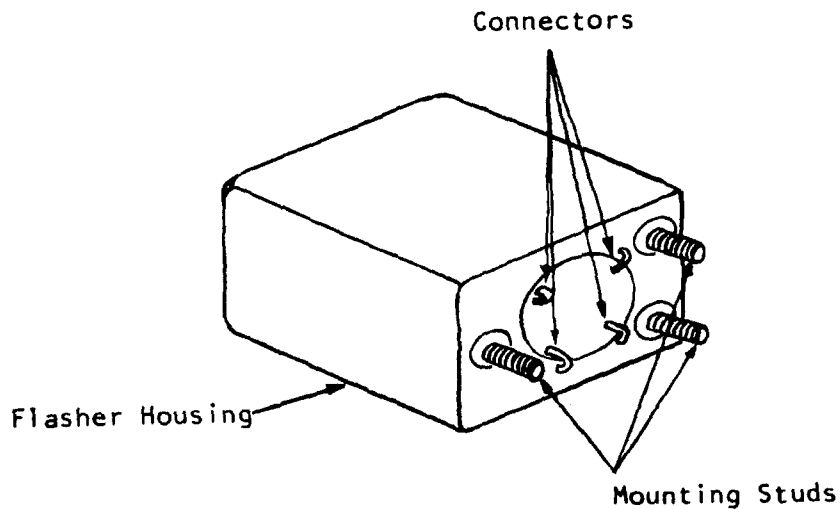

Figure 1 - Flasher Unit
1. Description. The flasher unit (see Figure 1) is mounted in the aft nacelle at approximately the 7 o'clock position on a bracket located between frames 5 and 6. The flasher unit is a solid-state, hermetically sealed, transistorized switch device that converts a steady 28 vdc input into an intermittent 28 volt DC output with a flashing rate of 120 cpm. The flasher has the capability to receive two separate inputs and all inputs/outputs are solder/potted connections.